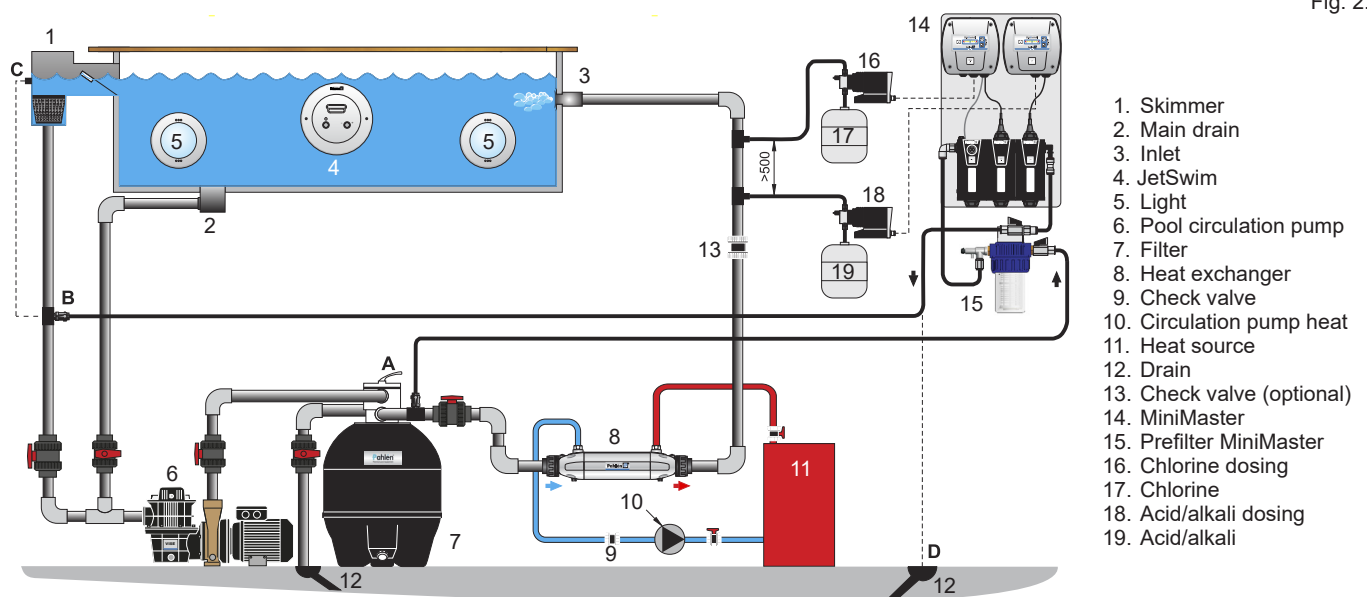

Fig. 2.
To minimize the risk of corrosion, all dosing units should be placed after all other equipment. The dosing points for liquid acid and chlorine should be as far apart as possible in the circulatory system, but at least 500 mm from each other, and CHLORINE DOSING ALWAYS LAST, see Fig. 2.
7. Inlet A: Install drilling bracket for the sand filter on the pool circulation pumps, pressure side (see A Fig. 2).
8. Outlet B: Install a drilling bracket after the overflow outlet on the pool circulation pump suction side (see B Fig. 2).
Lead the hose directly into the overflow outlet (C, Fig. 2), surge tank or drain outlet.
4. Adjust the flow with flow screw (L) until LED No. 1 has 4 lights. Make sure the flow goes through modules (displayed in window (M)) and flows freely through hoses.
5. If the drain hose is mounted onto the pump suction side (or B Fig. 2), ball valve L2 (Fig. 7) should open by 25-50 % in order to avoid vacuum in electrode modules.